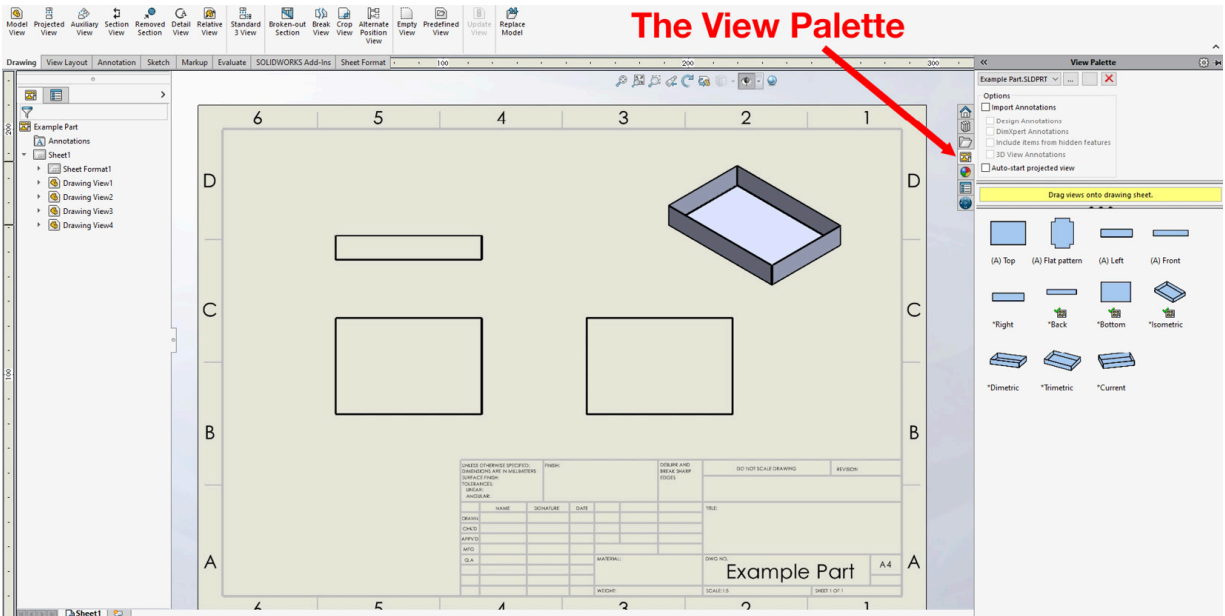

Figure 4.3: Views of the model can be dragged onto the drawing page from the View Palette
6. We are now in a new, blank drawing and we can add drawing views in the same way as with standard SolidWorks drawings. Try either going to the **Drawing** tab and selecting a view (such as **Standard 3 View**) or opening the **View Palette** on the right of the screen (See *Figure 4.3*) and dragging the views that you require onto the page: